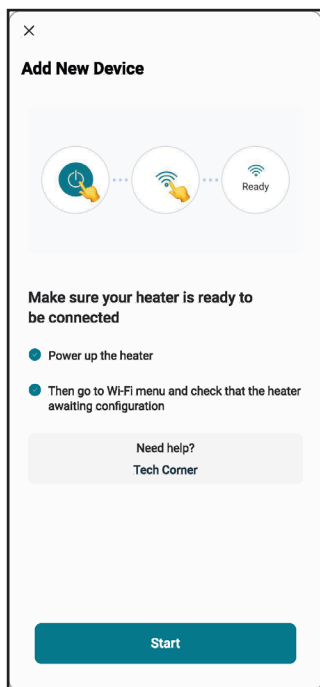

Figure 14. Check your Unit
1. "Check your Device" screen will appear. Ensure to have the heater powered and Wi-Fi signal available in the area, then press "Ready" button. See **Figure 14**.